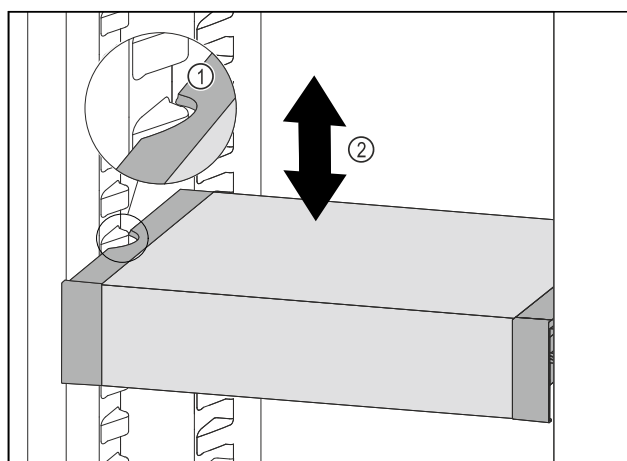

Fig. 102
- Pull VarioSafe forwards until the recesses in the side of the VarioSafe are at the level of the support rib in the refrigerator compartment. Fig. 102 (1)
- Move VarioSafe up or down in the refrigerator compartment until the desired height is reached. Fig. 102 (2)